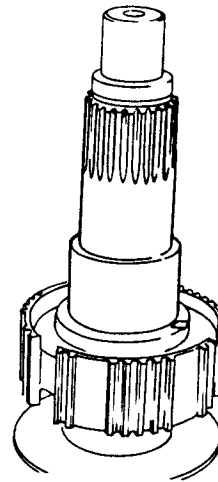

Fig H1.148
- (1) Refer to Fig H1.148. Position the mainshaft on a support or in a vice covering the jaws with soft rag, taking into account that the front end of the shaft must remain upwards.